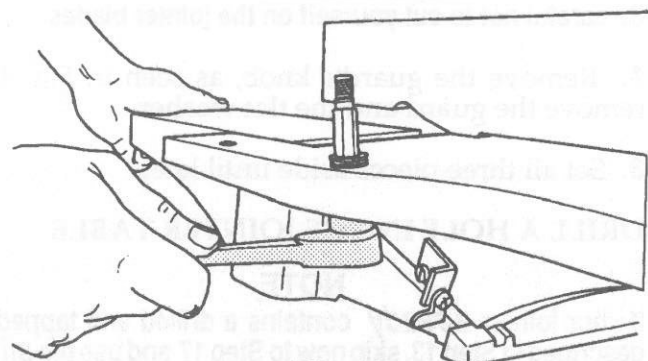

Fig. 10
17. Use a ratchet wrench with a  $1/2"$  socket to remove the old guard stud post, as shown in Fig. 10, and re-assemble your old jointer guard. Save it.